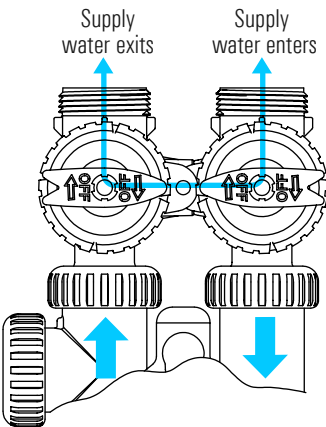

FIGURE 3.
Step 2. Press and Hold the REGEN button on the Triton valve until you hear the motor engage. This will initiate an immediate manual regeneration of the system. Turn the bypass valve to Diagnostic Mode (figure 3 on page 11). The screen will indicate “FILL”. You should hear water entering the system, fill the mineral tank and then begin filling the brine tank. Wait a few minutes to ensure the control valve pushes water to brine tank. You should see the water level in the brine tank increasing as the system puts water in brine tank to make brine. If everything is working, and you have verified that water in brine tank is rising, press and release the REGEN button. You will hear the motor engage and move the piston into the “SOFTENING” position. Check all connections to make sure the system has no leaks. To advance to the next stage of regeneration, press and release the REGEN button. You will hear the motor engage and move the piston into the “DRAW” position. You should see the water level in the brine tank decreasing as the system draws water from brine tank to regenerate the mineral tank. If everything is working, and you have verified that water in brine tank is dropping, press and release the REGEN button. Check all connections to make sure the system has no leaks. You will hear the motor engage and move the piston into the “BACKWASH” position. You should see and hear water going through the drain line to the drain. Allow the system to backwash until the water going to drain is clear. If everything is working, and you have verified that water is going to drain via drain line, press and release the REGEN button. Check all connections to make sure the system has no leaks. You will hear the motor engage and move the piston into the “RINSE” position. You should see and hear water going through the drain line to the drain. If everything is working, and you have verified that water is going to drain via drain line, press and release the REGEN button.
Figure 3. Diagnostic Position: The inlet handle points in the direction of flow and the outlet handle points to the center of bypass valve, system water pressure is allowed to the control valve and the plumbing system while not allowing water to exit from the control valve to the plumbing.